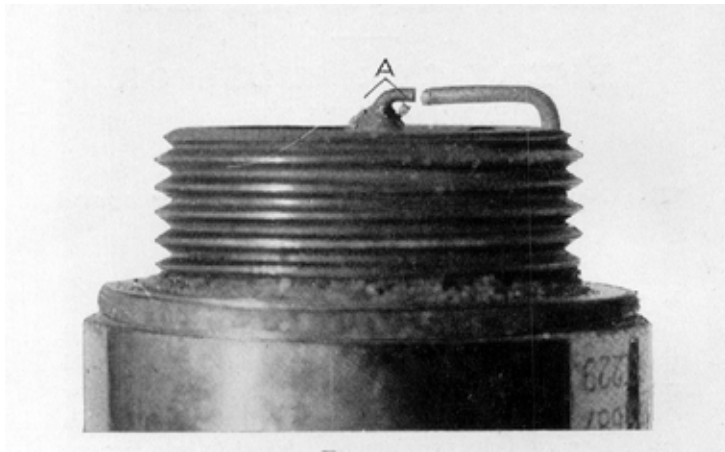

Fig. 33
(1) The points should not be coated with oil (clean them in petrol).
(2) The insulation should not be wet, cracked or coated with carbon.
(3) There should not be any beads formed by molten metal on the stem, or any sharp corners or “burrs” on inside end of the plug ; these becoming incandescent would cause pre-ignitions (Figs. 33 and 34, p. 35).
(4) The gap at the points should be correct ; these should be set to .02” for magneto and .03” for battery. A special gauge is provided to ensure accurate setting.
(6) It should be noted that the battery plugs should be situated over the inlet valves, and the magneto plugs either over the exhaust valves, or in later types in the “intermediate” position provided.